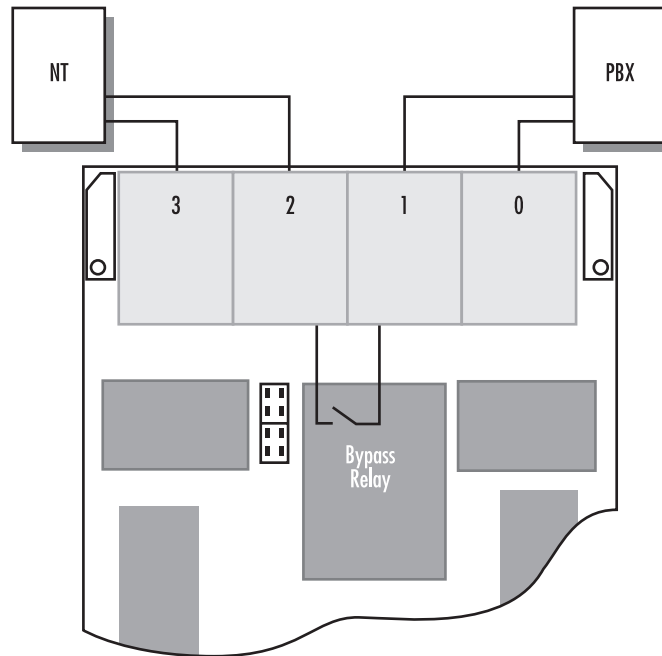

Figure 20. Two ports connected to the PBX and two ports to the ISDN network
- Two ports (0, 1) are connected to the PBX and two ports (2, 3) to the ISDN network (see figure 20 on page 38). In this case, both local breakout ports (four B-channels) can be used to route calls to the ISDN network. Only port 1 is protected by the bypass relay.